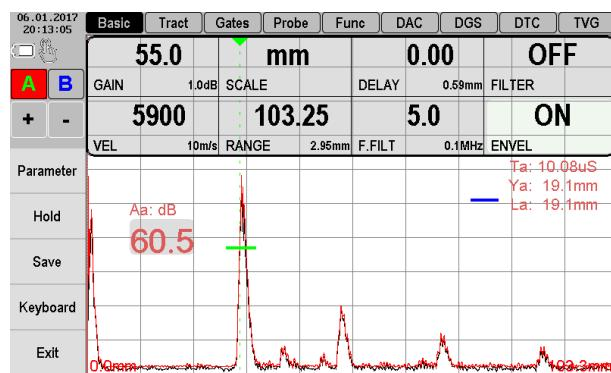

Figure 2.43 – Turning on the mode of amplitude envelope
7. Turn on the mode of amplitude envelope («ENVEL») and settle the maximum signal in A-gate from the nearest (first) reflector (Figure 2.43).